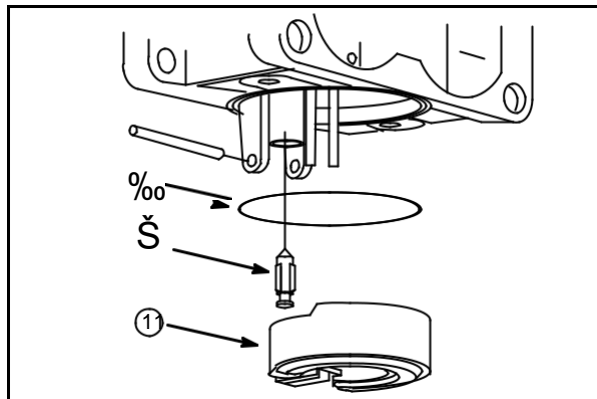

Fig. 128
Assemble inlet needle (10) to float (11) and install float, **Fig. 128**.